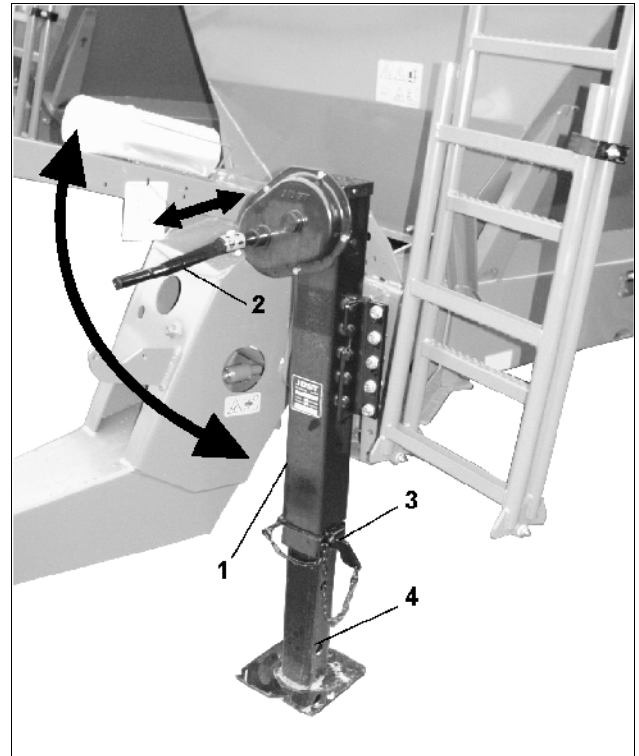

Fig. 22
- Pull the pin (Fig. 22/4) off the lower hole.
- Lower the support leg (Fig. 22/1)